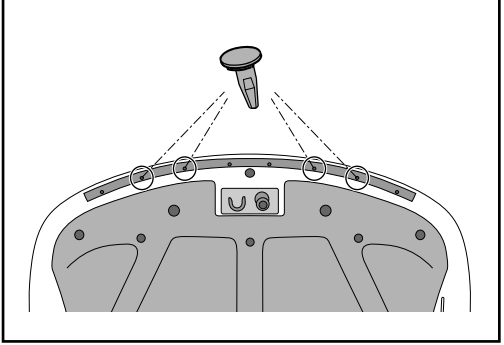

Figure 2
2. Carefully remove the four (4) noted retaining plugs from the rubber trim. The use of pliers may be required as the plugs may be difficult to remove. Retain the plugs in the vehicle's glove compartment, in case the Hood Protector will be removed at a later date (see Figure 2).